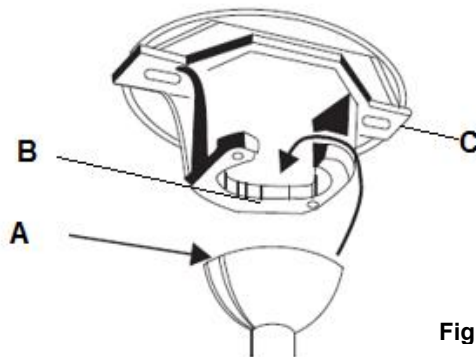

Fig. 7
Lift the fan assembly onto the mounting bracket. Ensure the key slot (A) of the hanger ball is positioned on the key pin (B) of the mounting bracket (C) to prevent the fan from rotating when in operation. (Fig. 7)